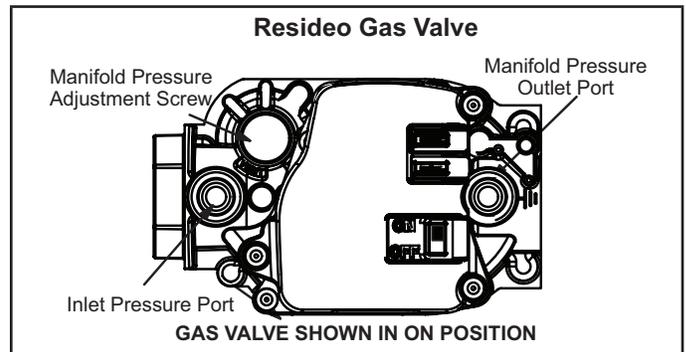

FIGURE 54
#### Gas Valve Operation (FIGURE 54)
- 6 - Move gas valve switch to **OFF**. See FIGURE 54.
- 8 - Move gas valve switch to ON. See FIGURE 54.
When testing supply gas pressure, use the 1/8" N.P.T. plugged tap or pressure post located on the gas valve to facilitate test gauge connection. See FIGURE 54. Check gas line pressure with unit firing at maximum rate. Low pressure may result in erratic operation or underfire. High pressure can result in permanent damage to gas valve or overfire.